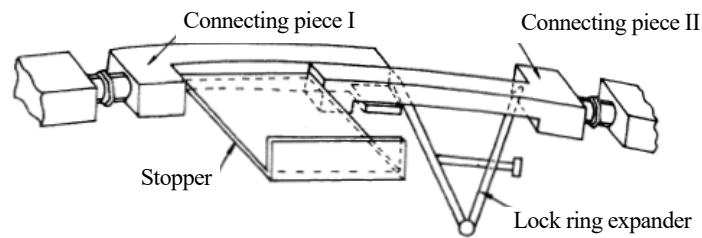

Figure 23 Lock ring stopper
- 8) Expand the lock ring with expander. Insert the stopper between the connecting piece I and II (see Figure 23) and remove the expander.